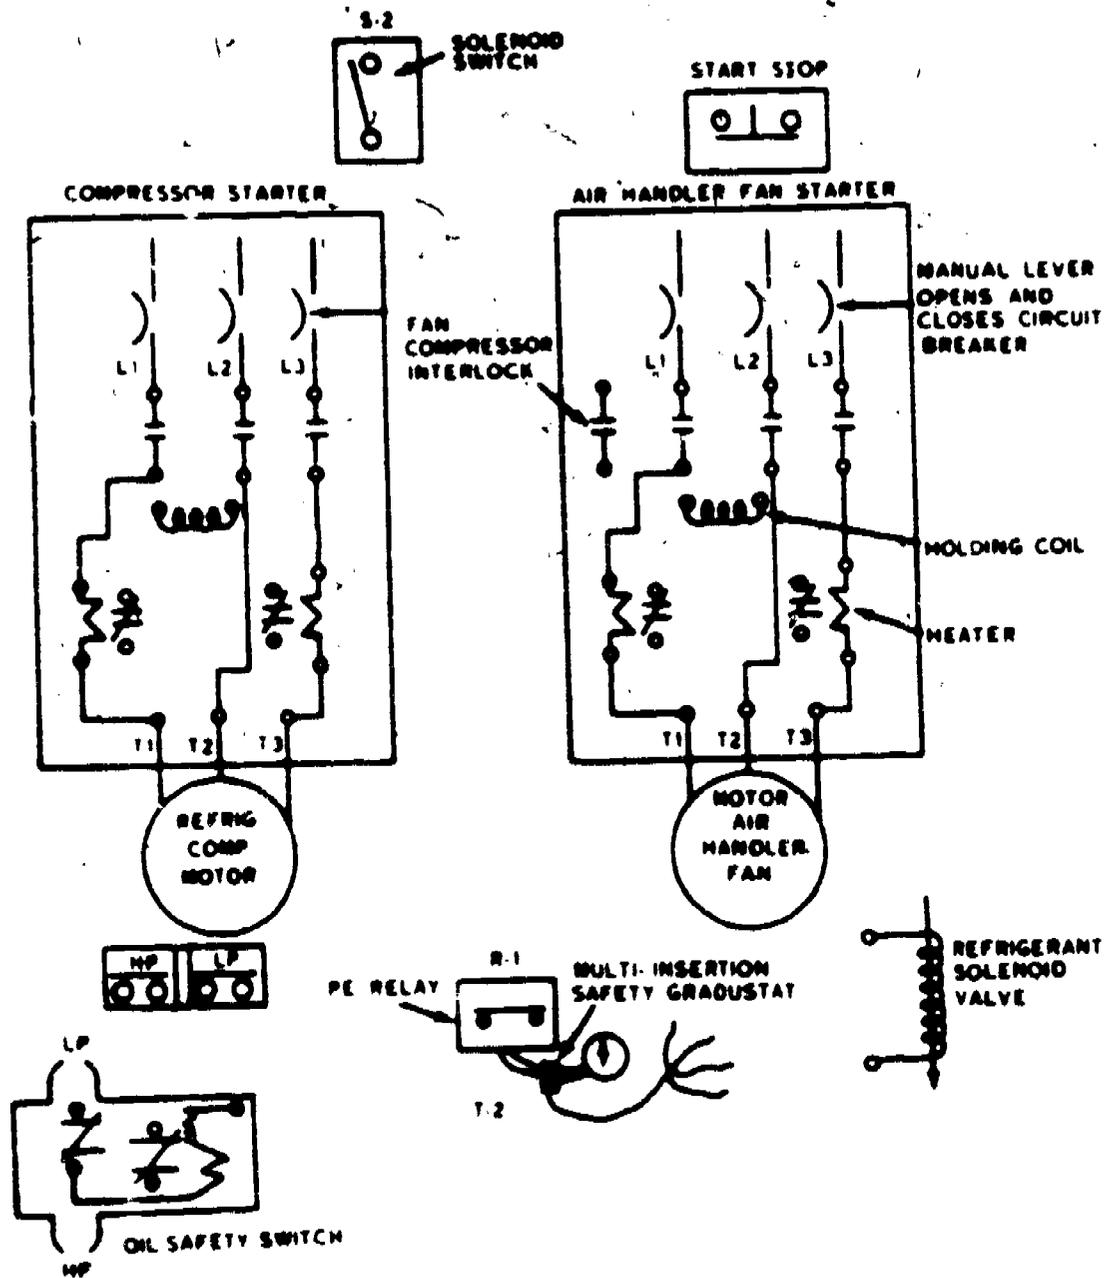

Figure 5. Compressor and Air Handler Controls
4. You have connected the compressor motor magnetic starter, the air handler fan motor starter and the safety controls in previous projects. Without referring to the projects, connect the complete system in the diagram (figure 5) as follows: